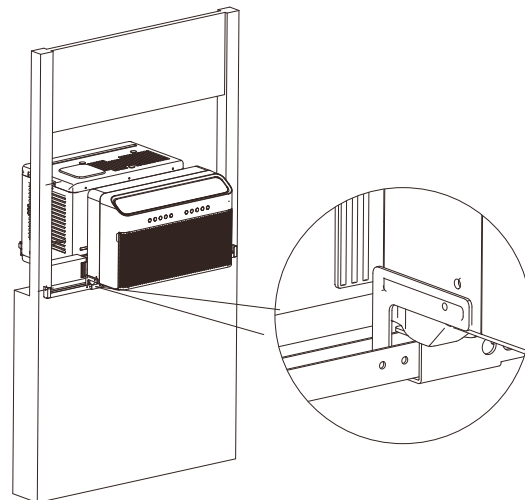

Fig.6
B. Fasten the AC with L plate. See Fig.6